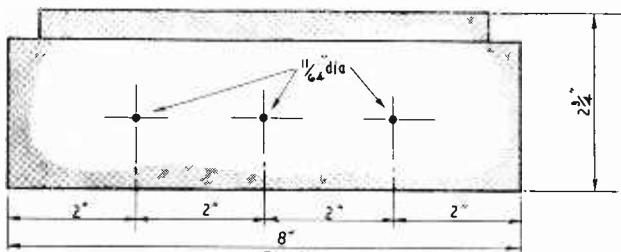

Fig. 5
(4) Having completed the foregoing, the cabinet lid is next treated by drilling three $\frac{1}{8}$ in. holes as shown in Fig. 5. These are for ventilation purposes and are necessary to ensure stability of the oscillator, in that the small amount of heat generated may easily be dispersed.